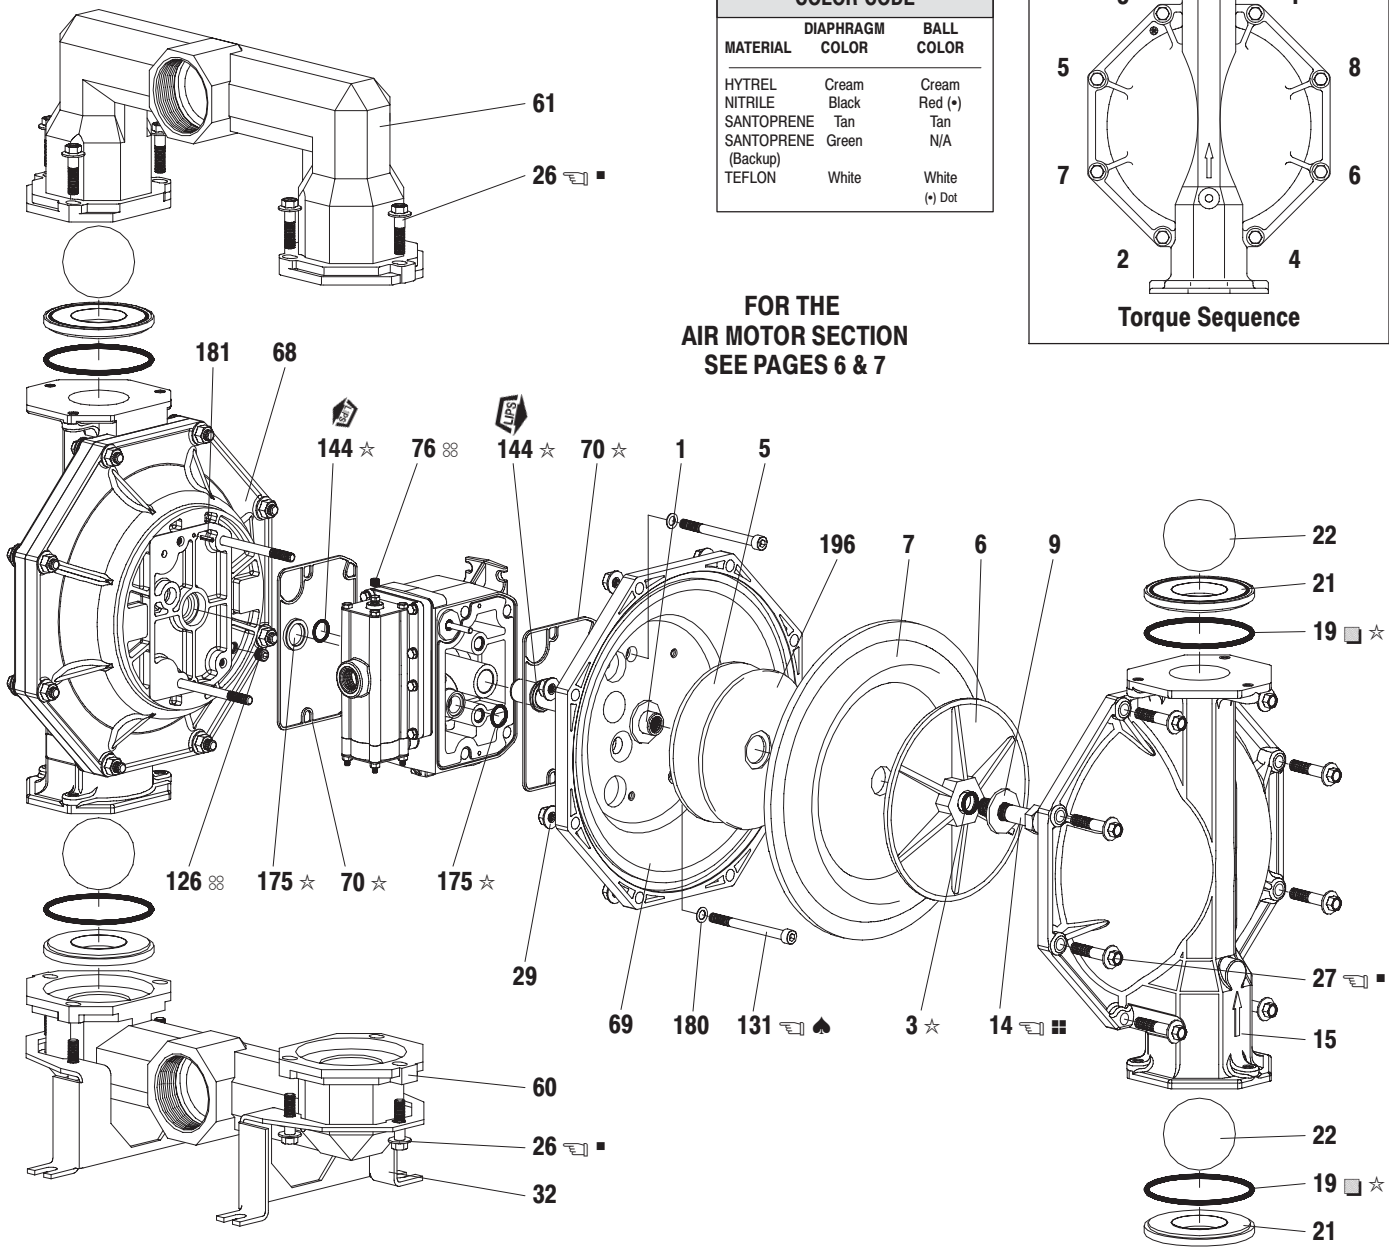

Figure 2
2. Remove (22) balls, (19) “O” rings (if applicable) and (21) seats.
3. Remove (15) fluid caps.
NOTE: Only Teflon diaphragm models use a primary (7) diaphragm and a backup (8) diaphragm. Refer to the auxiliary view in figure 2.
4. Remove the (6) diaphragm washer, (7) or (7 / 8) diaphragms, (5) backup washer and (196) cushion.